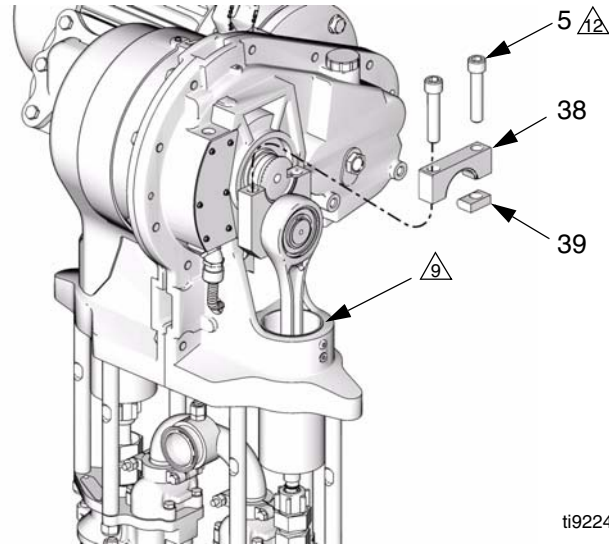

FIG. 5. Install Crank Arm Cap
2. Slide the piston (9) and connecting rod (7) into the cylinder (2).
3. Position the crank arm (4) to engage the output shaft (OS), and rotate it to the bottom of the output shaft.
4. Place a clean rag over the top of the slider cylinder (2) to prevent debris from falling into the slider assembly during reassembly.
5. See FIG. 5. Apply antiseize lubricant to the threads of the cap screws (5). Install the key (39), crank arm cap (38), and cap screws (5), oriented as shown. While the gap-side screw is still loose, torque the key-side screw to 210-230 ft-lb (283-310 N•m). Then torque the gap-side screw to 210-230 ft-lb (283-310 N•m).
6. Ensure that the collars (13) are in place in the coupling nut (14).
7. Place a 3/4 in. wrench on the flats of the slider piston (9), to keep it from turning when you are tightening the coupling nut (14). Orient the wrench so it is braced against one of the tie rods (3) or the pump stand. Tighten the coupling nut (14) onto the slider piston (9) and torque to 75-80 ft-lb (102-108 N•m).
8. Remove the rag. Reinstall the cover (32 or 21) and screws (12).
- ⚠ 9 Place clean rag over slider cylinder (2).
- ⚠ 12 Apply antiseize lubricant to screw (5) threads. Torque key-side screw to 210-230 ft-lb (283-310 N•m) first, then torque gap side screw to 210-230 ft-lb (283-310 N•m).